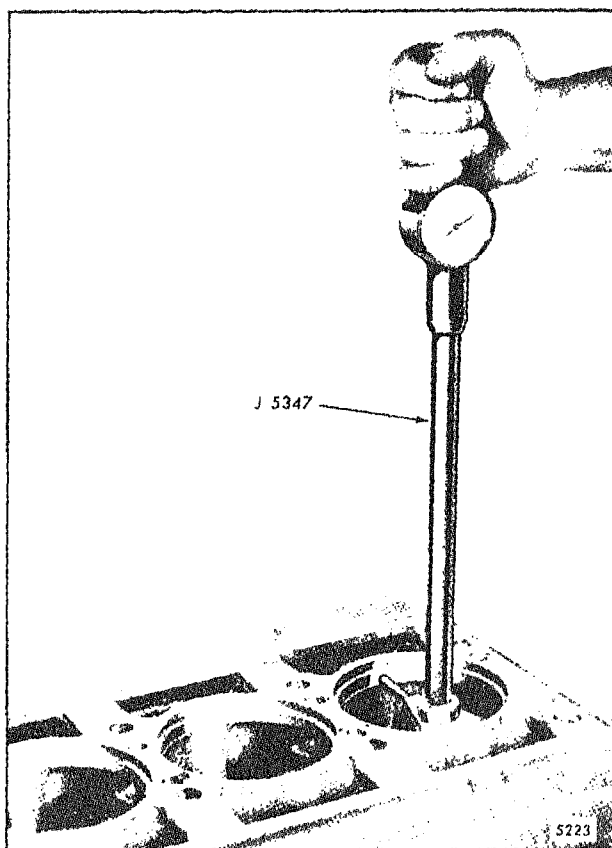
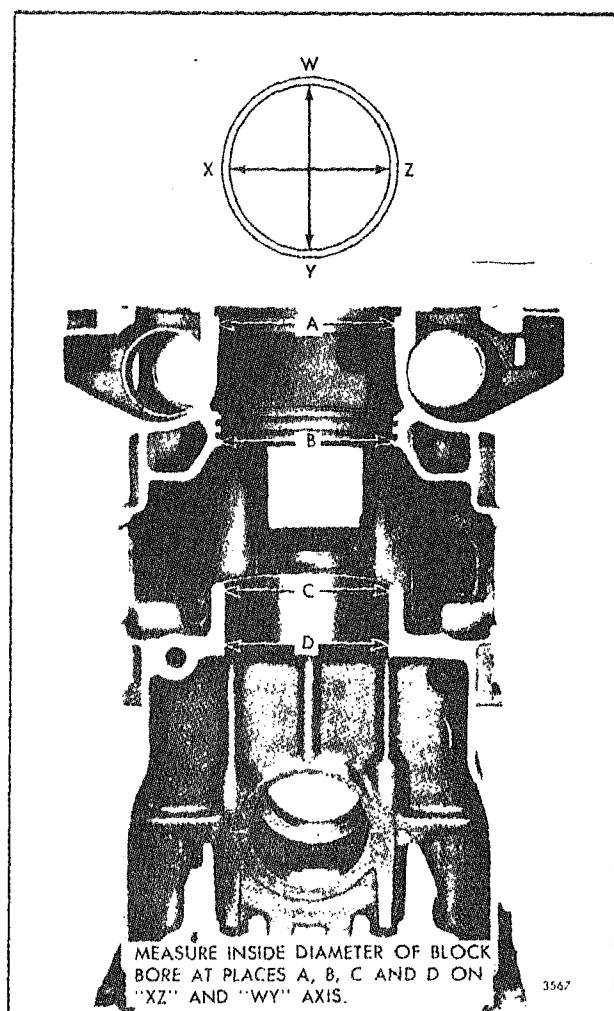

Fig. 12 - Checking Cylinder Block Bore with Tool J 5347
Fig. 13 - Block Bore Measurement Diagram
- b. Measure the entire bore of each cylinder with cylinder bore gage J 5347 (Fig. 12) which has a dial indicator calibrated in .0001" increments. Use dial bore gage setting tool J 23059 to preset the cylinder bore gage to zero. Measure each block bore at the positions indicated in Fig. 13, on axis 90° apart. If the diameter does not exceed 4.5235" at position "A", 4.4900" at position "B" (and a sealing problem hasn't occurred), or 4.3595" at position "C" and "D", then the block may be reused. Also, the taper and out of round must not exceed .0015".